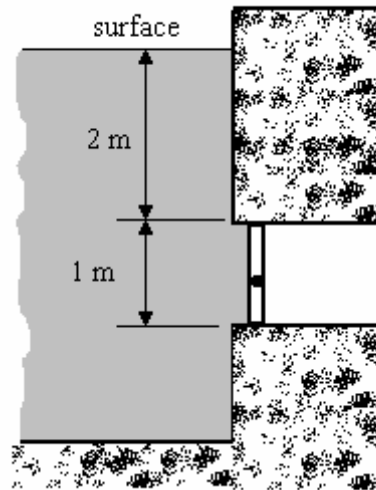

Fig.11
3. A culvert in the side of a reservoir is closed by a vertical rectangular gate 2 m wide and 1 m deep as shown in fig. 11. The gate is hinged about a horizontal axis which passes through the centre of the gate. The free surface of water in the reservoir is 2.5 m above the axis of the hinge. The density of water is 1000 kg/m^3 .